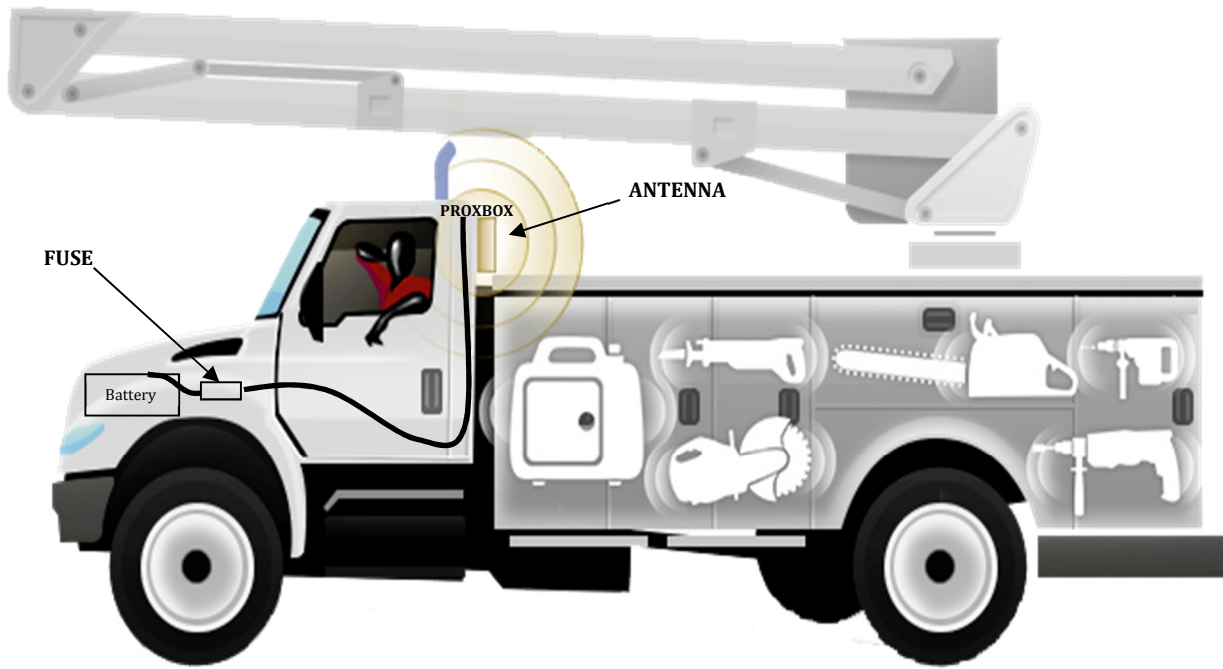

Figure 1
Figure 1 shows the typical routing of the power cable and component placement for the ProxBox system.
- The recommended placement for the boom sensor and magnet is as shown in figure 1. The sensor should be mounted to the lower arm of the boom or pedestal and the boom magnet should be mounted to the upper arm of the boom.
- Attach the boom sensor and magnet to the boom in the general location shown in figure 1. Mount the boom sensor and magnet using a permanent epoxy.